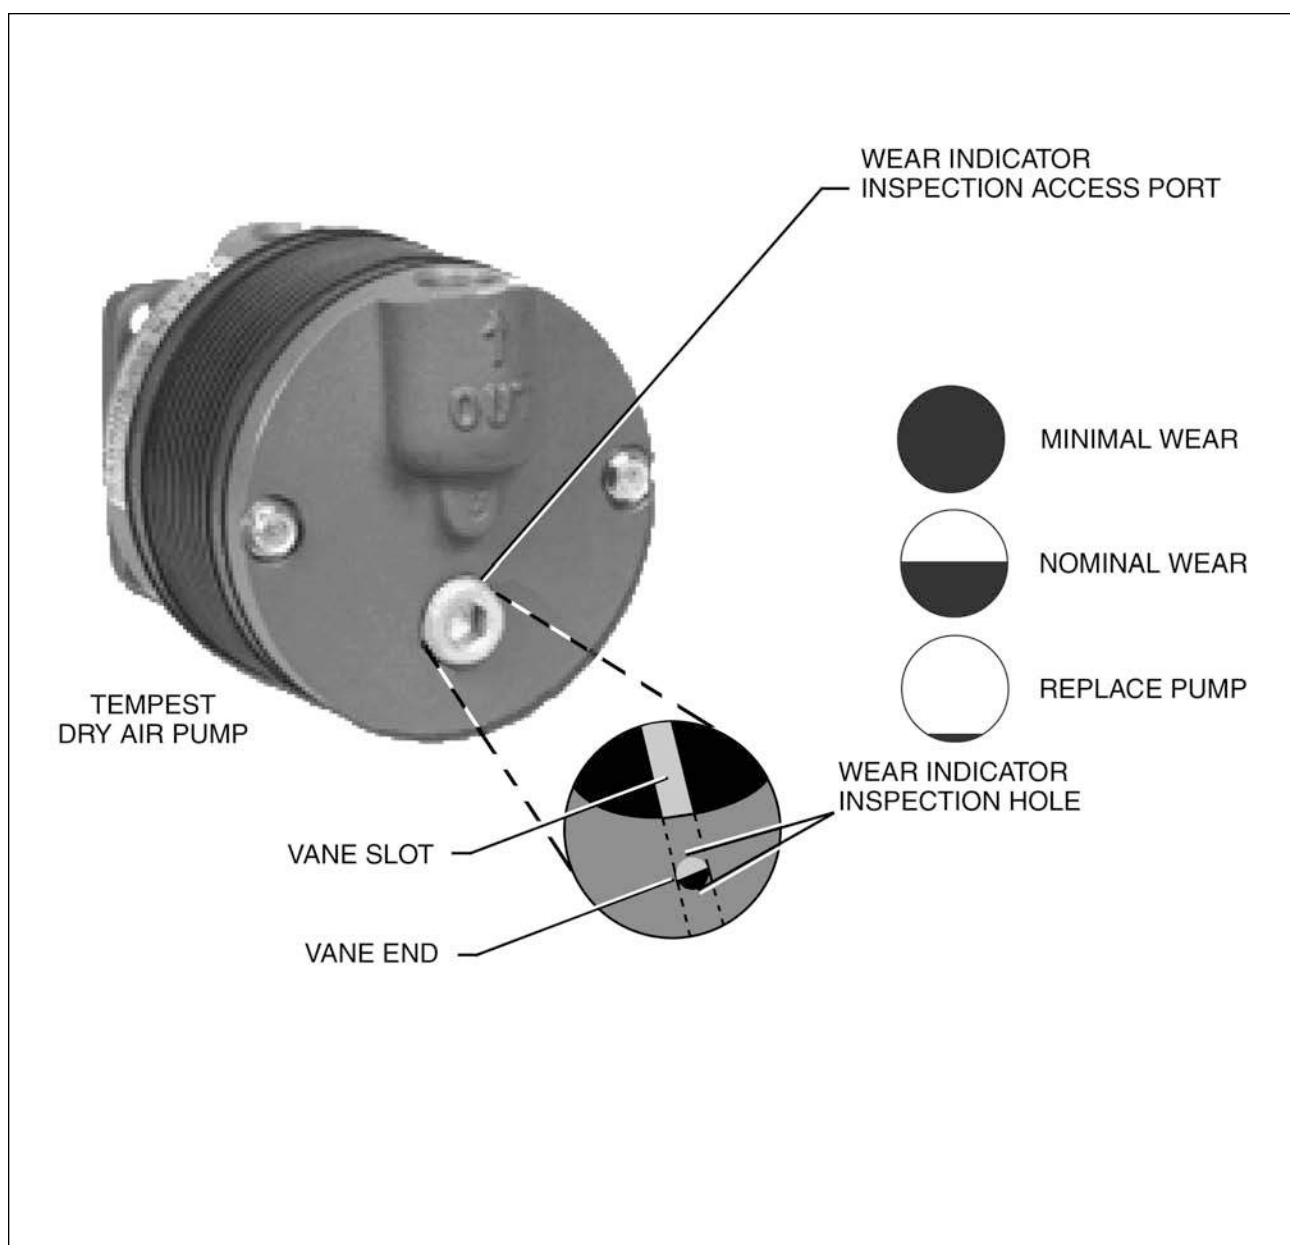

Figure 11-1. Vacuum Pump Vane Wear Inspection
- A. Inspection - Aero Accessories Tempest Pumps Only (See Figure 11-1.)